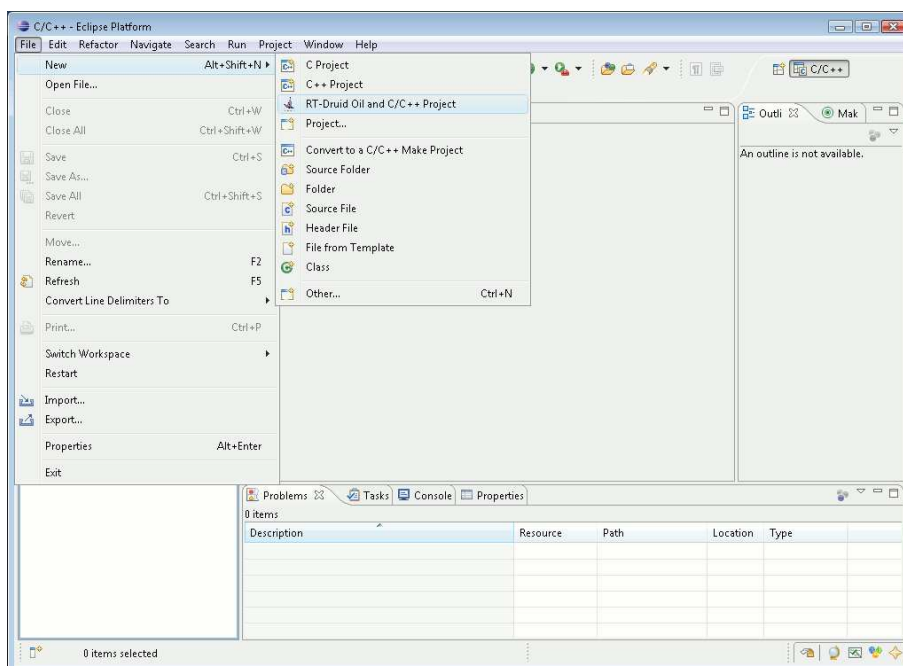

Figure 5.1: Select “New project” from the “File” menu.
1. Please select “New Project”, then “RT-Druid Oil and c/c++ Project” from the “File menu”, as in Figure 5.1.